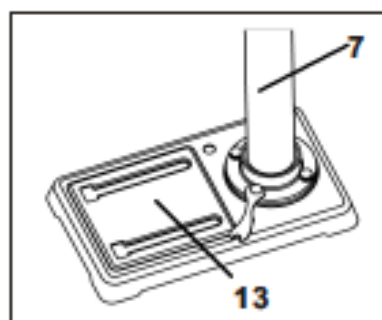

Fig 2
1. Place Column (7) on the Base (13) and align holes in the Column with holes in the Base.
2. Attach using Bolt Washer and Spring Washer hole through the Column and into the Base. (Fig 2)